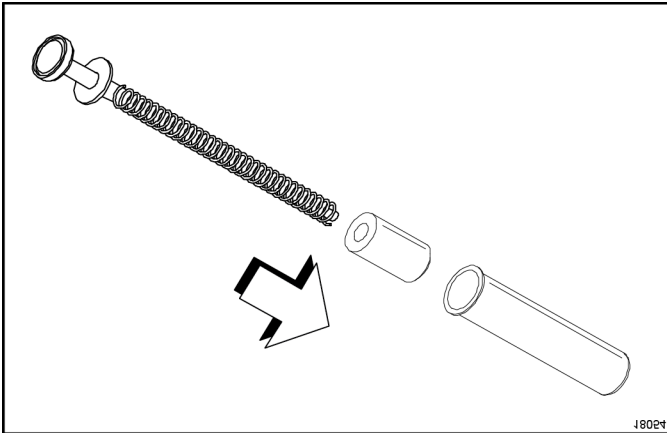

Figure 6-94
5. Remove the plunger tube and the insert from the plunger assembly. (See Figure 6-94.)